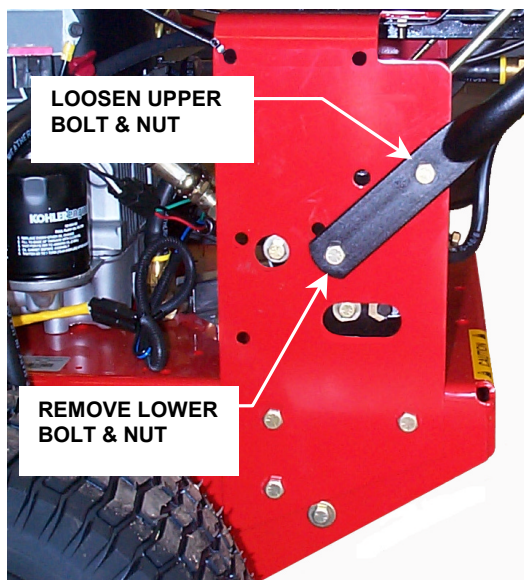

FIGURE 3.10
**STEP 5:** Loosen the upper bolt and nut on right and left side of Mower which holds Handlebar to Support Bracket. Remove the lower bolt and nut on each side. Retain this hardware. See Figure 3.10.